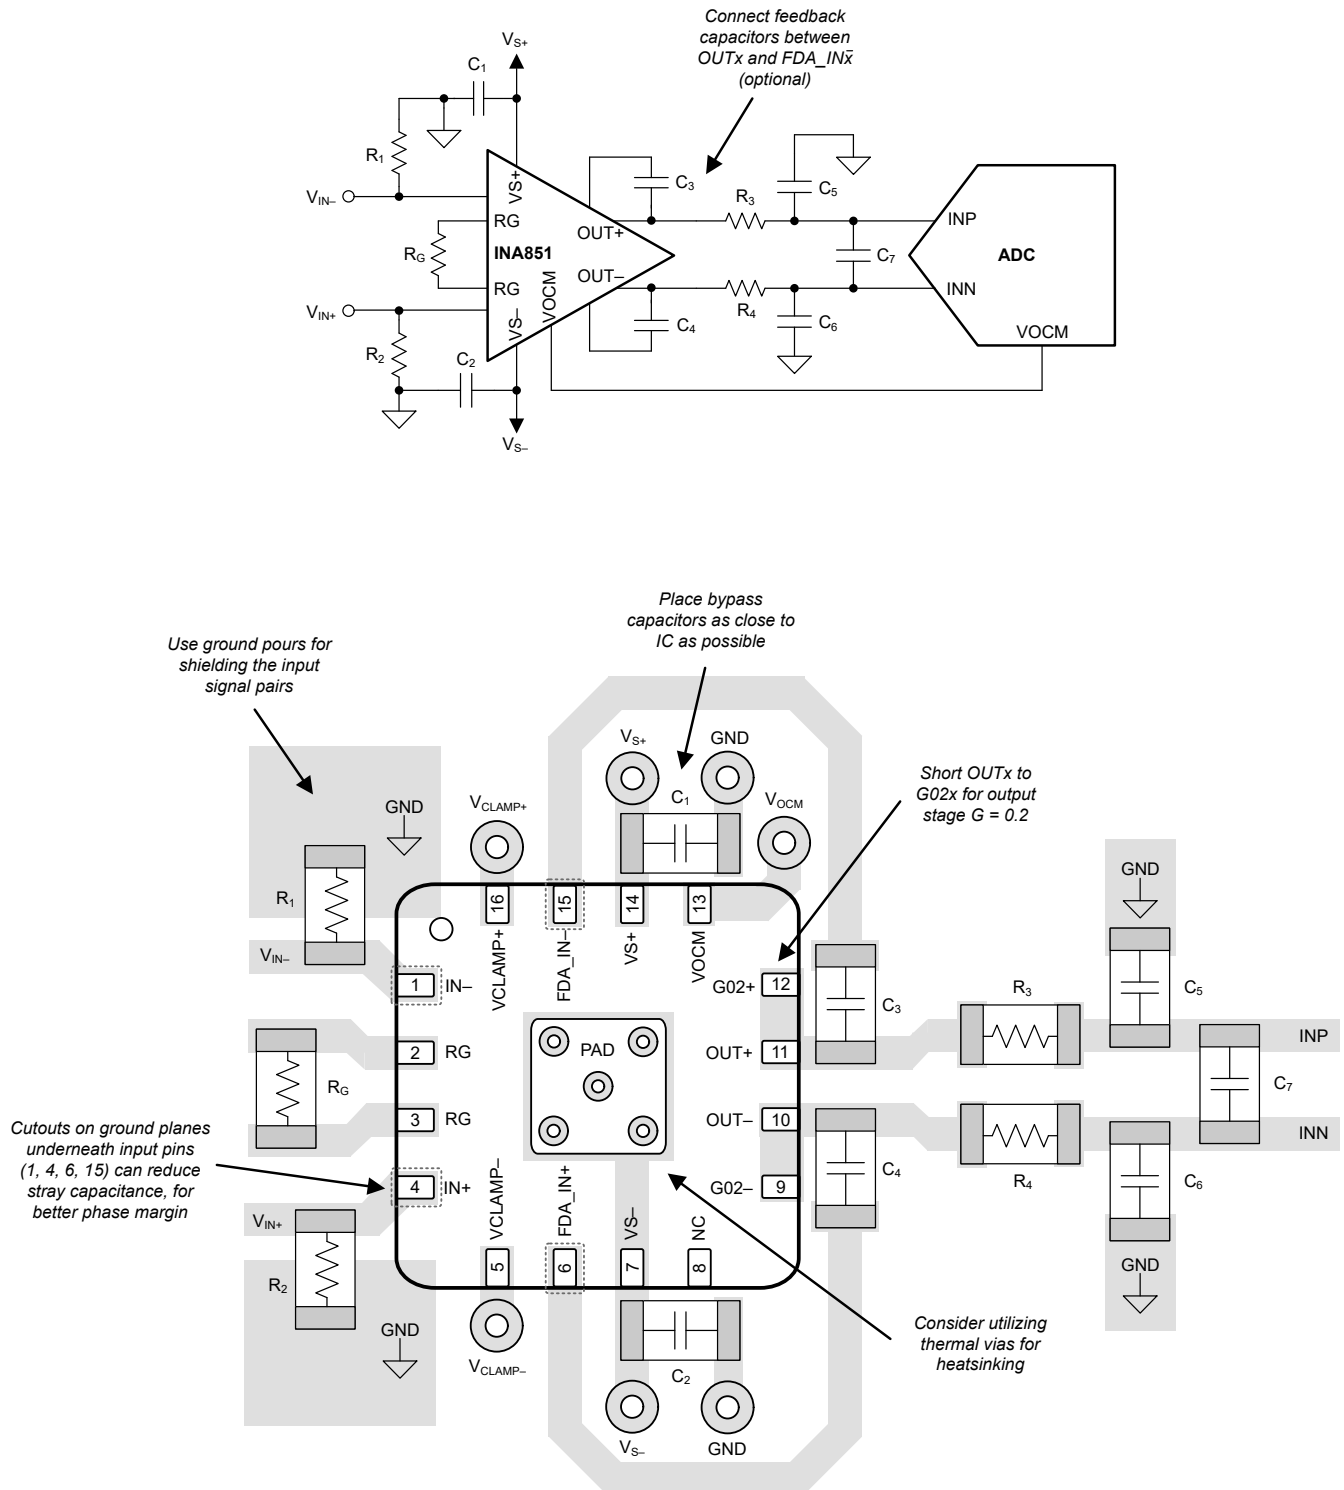

Figure 9-14. Example Schematic and Associated PCB Layout
- As shown in Figure 9-14, keep the external gain resistor close to the R_G pins to keep the loop inductance as low as possible and to avoid a potential parasitic coupling path. Even slight mismatch in parasitic capacitance at the gain setting pins can degrade CMRR over frequency. In applications that implement gain switching using switches or PhotoMOS® relays to change the value of R_G , select the component so that the switch capacitance is as small as possible, and most importantly, so that capacitance mismatch between the R_G pins is minimized.